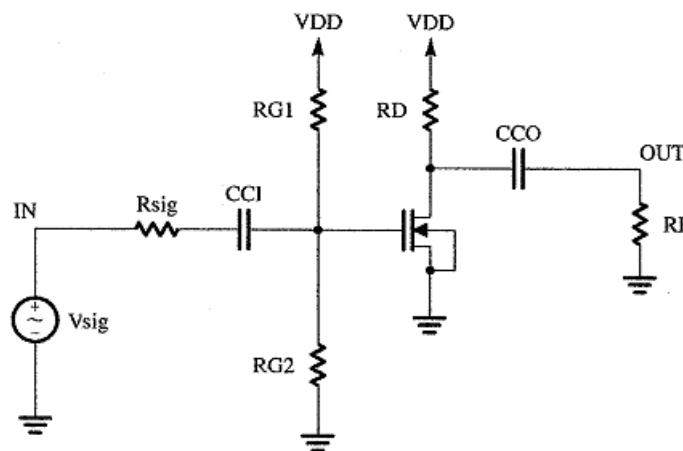

Figure 1 AC-Coupled Common-Source Amplifier
2. Use a comprehensive word processing application (such as WORD®) to assemble your report. All pages must have a printed header or footer (your choice) containing the CAD assignment number, student name, date and page number. All tables, schematics, graphs, and drawings must be captioned starting with Table 1, Figure 1, etc. Reference the page and figure caption for data presented on the summary page. Mark the location on any graph where data is taken for the summary page. Orient figures to give the largest possible presentation and do not place more than one figure on a page. Reverse the PSPICE graph background from black to white. The “by hand” calculations and figures may be handwritten but all other requirements must be satisfied. Use 8½” x 11” new unused printer paper for all PSPICE results and the “by hand” calculations and any associated required figures. Do not print or write on the back side of any page. “Portrait” pages must have the top aligned with the top of the stack. “Landscape” pages must have the top aligned with the left of the stack. Secure all pages with one staple in the far upper left corner of the stack. All material on each page should be visible. Work failing to conform to these specifications will not be accepted and a grade of “0” will be assigned. Late write-ups will not be accepted without good cause, e.g., documented medical problem, employer required travel.
This CAD exercise demonstrates the operation of a single-stage common-source amplifier using the circuit shown in Figure 1. For this amplifier use the breakout library MbreakN MOSFET with $K_P = 0.001$, $V_{TO} = 1$, $W = 1E-6$, $L = 2E-7$, $CGSO = 5E-6$, $CGDO = 2E-6$, and $LAMBDA = 0.02$. In the circuit use $V_{DD} = 10$ volts, $CC_I = C_{C_O} = 1nF$, $R_{G1} = 4M\Omega$, $R_{G2} = 1M\Omega$, $R_D = 2k\Omega$, $R_L = 5k\Omega$ and $R_{sig} = 75\Omega$.
Construct a test setup for the circuit shown in Figure 1.